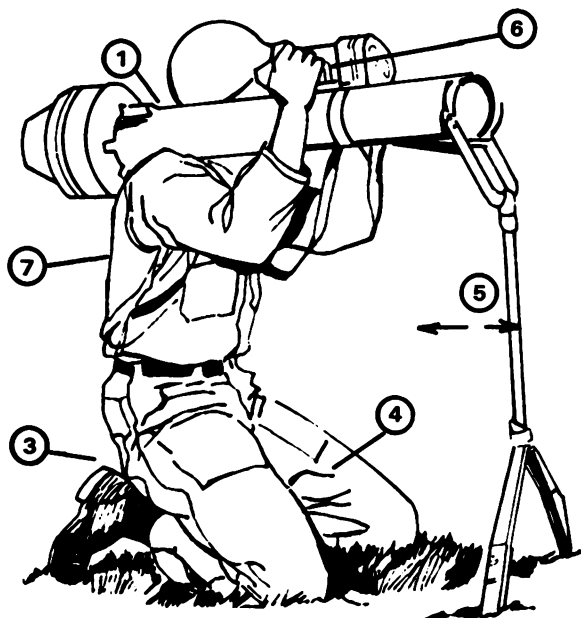

Figure 1.
a. Kneeling position (figure 1).